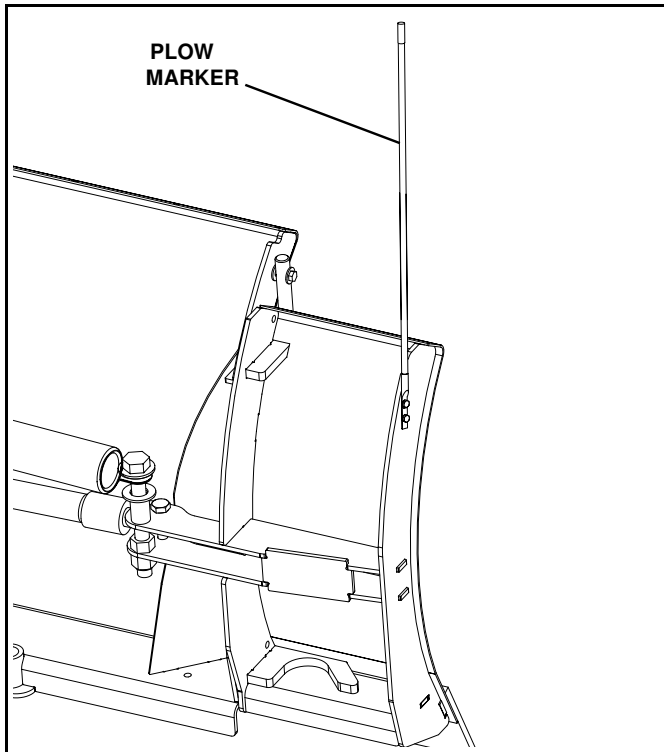

Figure 2-16
11. Optional Accessory: Attach a plow marker to each wing and wing link as shown and secure using 5/16 x 1" cap screws and locknuts. (See Figure 2-16)